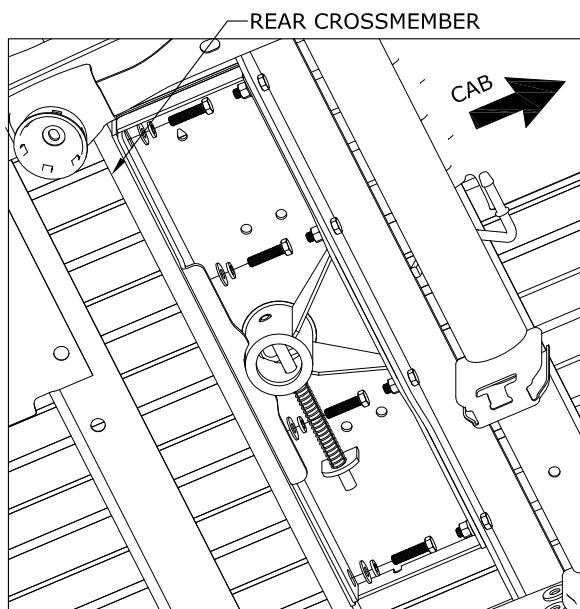

FIGURE B11: View under the center section looking from in front of the axle on the passenger side.
**6. Attach the rear cross member to the center.** Slide the rear cross member up against the center section. Line up the slots in the center with the threaded holes in the cross member. Attach the two members using  $\frac{1}{2} \times 2$ " long bolts, flat washers, and lock washers as shown in figure B11. Hand tighten bolts.